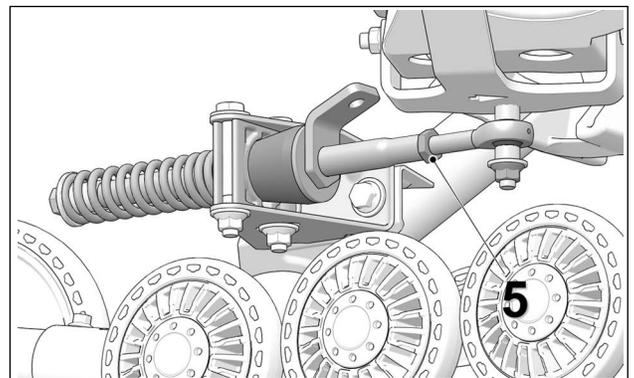

Figure 16
- Re-tighten jam nut (5) to 40 Nm [30 lb-ft] of torque when adjustment is complete. Figure 16.